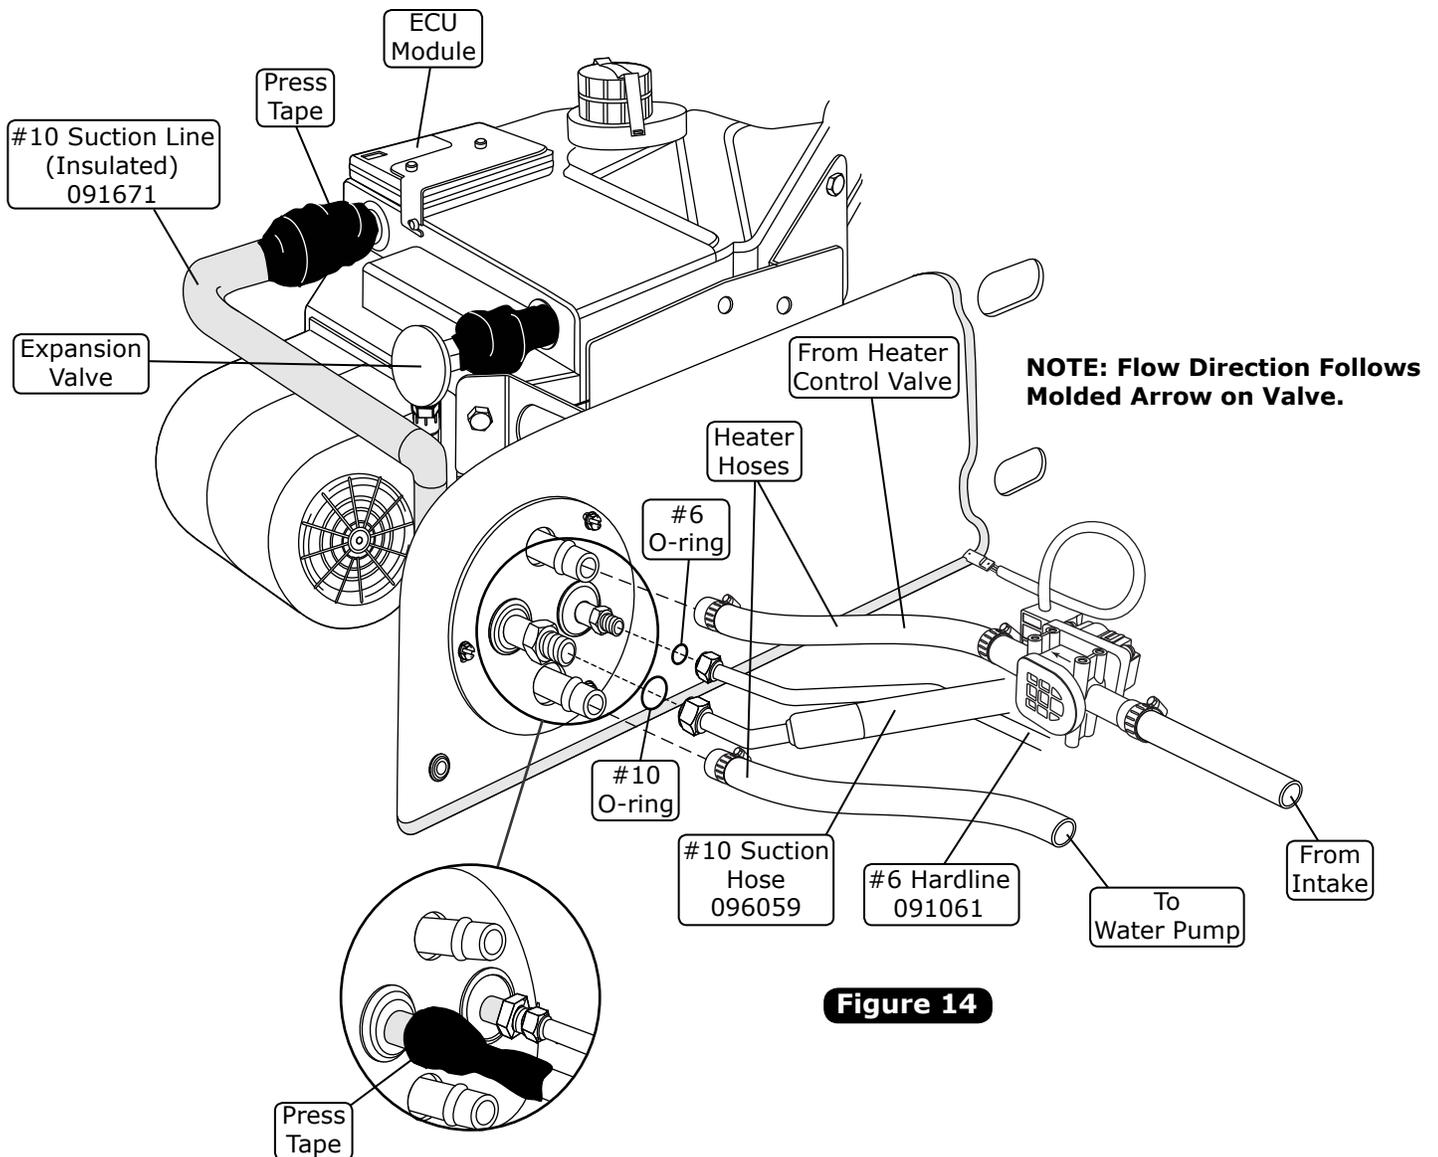
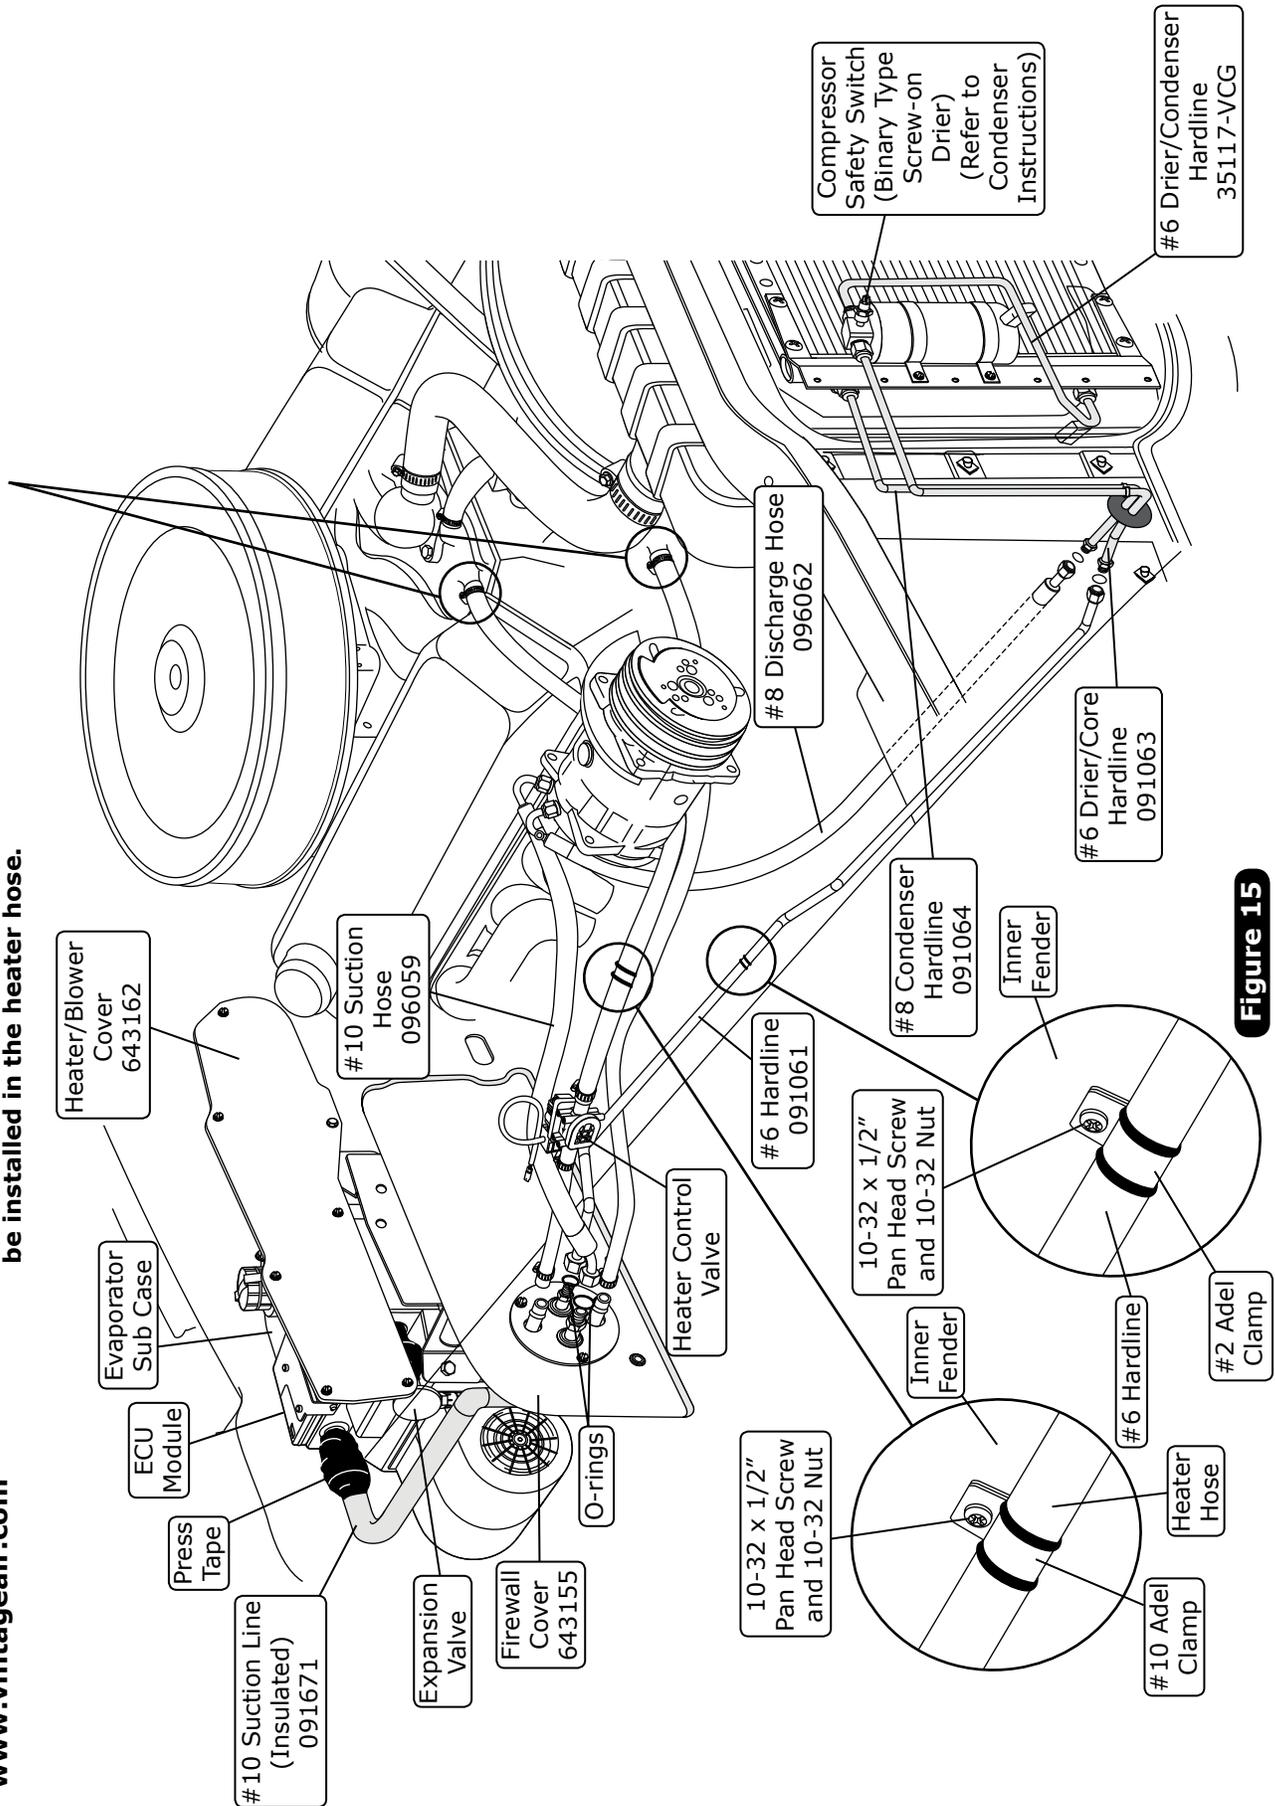

Figure 14
Figure 15
1. Locate the #8 compressor A/C hose. Lubricate (2) #8 O-rings (See Figure 13, above) and connect the 135° female fitting with 134a service port to the #8 discharge port on the compressor. Then route the straight female fitting to the #8 condenser hardline coming through the core support (See Figure 15, Page 16). Tighten each fitting connection as shown in Figure 13, above.
2. Locate the #10 compressor A/C hose. Lubricate (2) #10 O-rings (See Figure 13, above) and connect the #10 135° female fitting with 134a service port to the #10 suction port on the compressor. Then route the 45° female fitting to the #10 evaporator hardline coming through the firewall (See Figure 15, Page 16). Tighten each fitting connection as shown in Figure 13, above. **NOTE: Wrap the #10 fitting connections with press tape (See Figure 14, Page 15).**
3. Locate the #6 evaporator/core hardline. Lubricate (2) #6 O-rings (See Figure 13, above) and connect the hardline to the #6 hardline coming through the core support from the drier. Then attach the other end of the hardline with lubricated O-ring to the #6 evaporator hardline coming through firewall (See Figure 15, Page 16). Tighten each fitting connection as shown in Figure 13, above.
4. Use #2 and #10 Adel clamps to secure the #6 evaporator/core support hardline and the 5/8" heater hose to the inner fender as shown in Figure 15, Page 16. Secure the Adel clamps to the inner fender using (2) 10-32 x 1/2" pan head screws and 10-32 nuts.
1. Route a piece of heater hose from the water pump to the lower heater core fitting (See Figure 14, below, & Figure 15, Page 16). Secure using hose clamps.
2. Route a piece of heater hose from the intake to the heater control valve, and from the heater control valve to the upper heater core fitting (See Figure 14, below, & Figure 15, Page 16). **NOTE: Install the heater control valve in line with the intake manifold (pressure side) heater hose, and secure using hose clamps. Also note proper flow direction.**